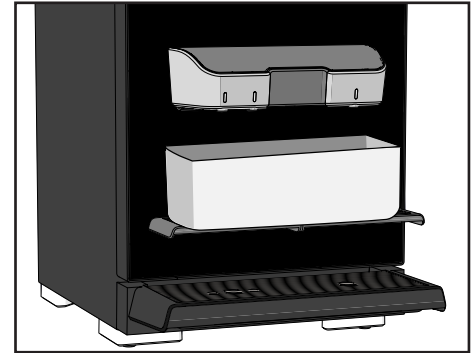

Figure 27.
4. Place a container under the spouts (see Figure 27).